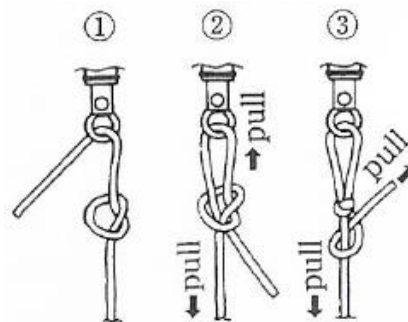

Figure 2 The prescribed knot
2. Tie the two sinkers strongly to each other with the rope. Use the steps of Figure 2 for the prescribed knot.